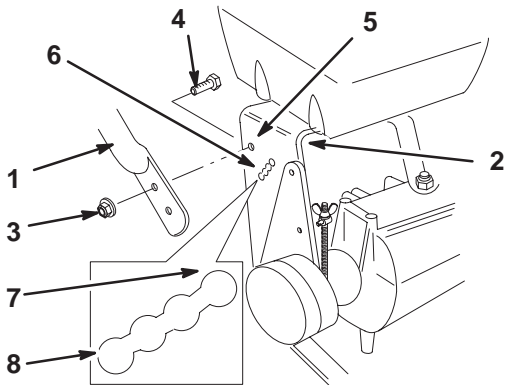

Figure 2
1. Align handle with upper mounting holes in rear frame (Fig. 2).
2. Secure the handle at each upper mounting hole with a flange bolt (3/8 x 1 inch) and flange nut (Fig. 2).
3. Select the low position for the lower mounting hole (Fig. 2).
4. Secure the handle at each lower mounting hole with a flange bolt (3/8 x 1 inch) and flange nut (Fig. 2).